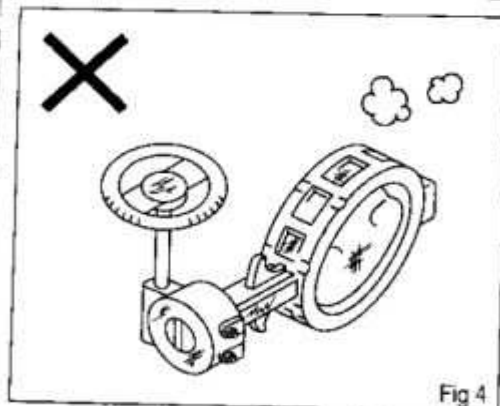

Fig 4
- **Un-packing** : Un-packing of valve to be recommended before its installation to pipings. If valve stored being unpacked for long, dust or foreign matter will get into the valve. It will cause malfunctions. (Fig 4)